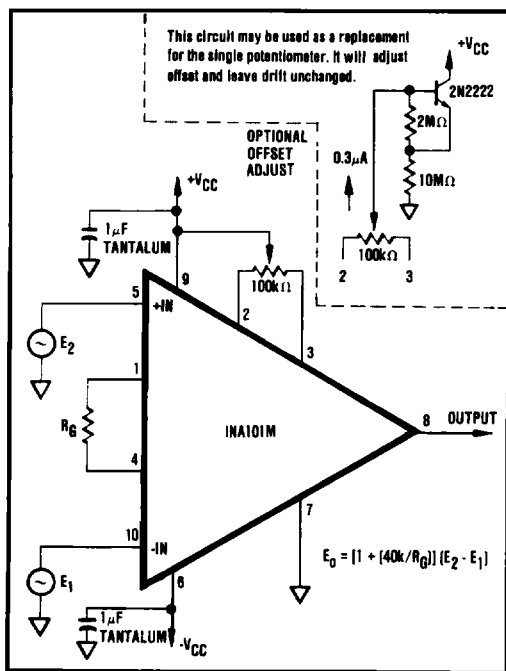
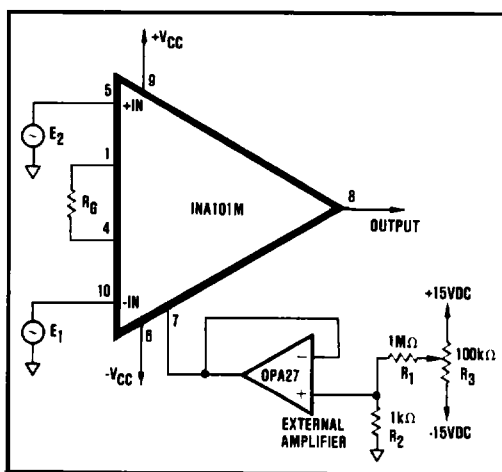

FIGURE 2. Basic Circuit Connection for the INA101 Including Optional Input Offset Null Potentiometer.
FIGURE 3. Optional Output Offset Nulling or Offsetting Using External Amplifier (Low Impedance to Pin 7).
At +25°C and in circuit of Figure 2 unless otherwise noted.
Figure 2 shows the simplest configuration of the INA101. The gain is set by the external resistor,  $R_G$ , with a gain equation of  $G = 1 + (40k/R_G)$ . The reference and TCR of  $R_G$  contribute directly to the gain accuracy and drift.
The optional offset null capability is shown in Figure 2. The adjustment affects only the input stage component of the offset voltage. Thus, the null condition will be disturbed when the gain is changed. Also, the input drift will be affected by approximately 0.31 $\mu$ V/ $^{\circ}$ C per 100 $\mu$ V of input offset voltage that is trimmed. Therefore, care should be taken when considering use of the control for removal of other sources of offset. Output offsetting can be accomplished in Figure 3 by applying a voltage to Common (pin 7) through a buffer amplifier. This limits the resistance in series with pin 7 to minimize CMR error. Resistance above 0.1 $\Omega$  will cause the common-mode rejection to fall below 106dB. Be certain to keep this resistance low.
The basic circuit connection for the INA101 is shown in Figure 2. The output voltage is a function of the differential input voltage times the gain.
It is frequently desirable to null the input component of offset (Figure 2) and occasionally that of the output (Figure 3). The quality of the potentiometer will affect the results, therefore, choose one with good temperature and mechanical-resistance stability. The procedure is as follows:
3. Adjust to  $100k\Omega$  potentiometer in Figure 2 until the output reads  $0V \pm 1mV$  or desired setting. Note that the offset will change when the gain is changed. If the output component of offset is to be removed or if it is desired to establish an intentional offset, adjust the  $100k\Omega$  potentiometer in Figure 3 until the output reads  $0V \pm 1mV$  or desired setting. Note that the offset will not change with gain, but be sure to use a stable external amplifier with good DC characteristics. The range of adjustment is  $\pm 15mV$  as shown. For larger ranges change the ratio of  $R_1$  to  $R_2$ .